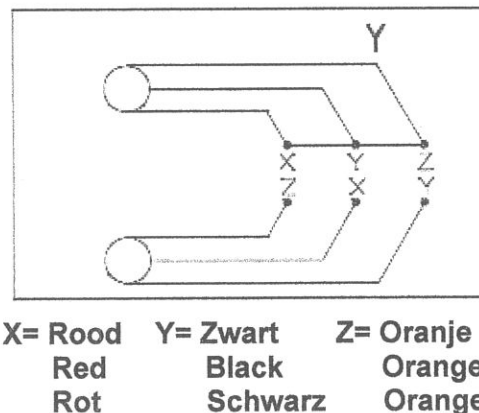

Figure 5.4-1: Wiring connections in the connection compartment of the electrical motor
- Open the connection compartment of the electrical motor and install the strips as shown in Figure 5.4-1.